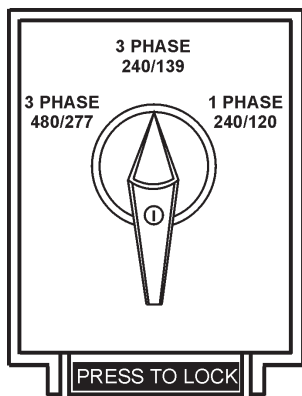

Figure 15. Voltage Selector Switch
The **voltage selector** switch (Figure 15) is located above the output terminal panel's **Hard Wire Hook-up Panel**. It has been provided for ease of voltage selection.
A wide range of voltages are available to supply voltage for many different applications. Voltages are selected by using the **voltage selector** switch (Figure 15). To obtain some of the voltages as listed in Table 7 (see below) will require a fine adjustment using the **voltage regulator (VR) control knob** located on the control panel.